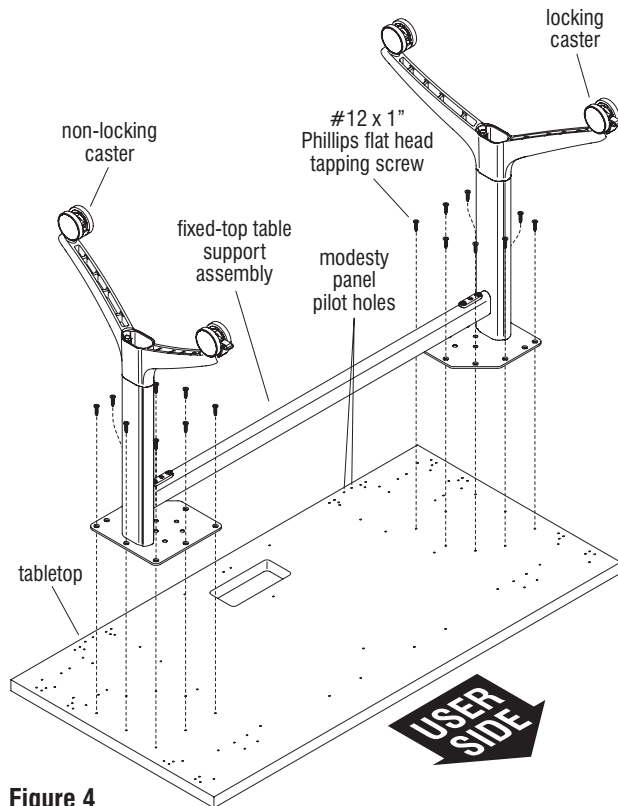

Figure 4
1. Carefully place the tabletop upside down on a soft, protective surface. Take note that the “non-user side” of the tabletop has a pilot hole pattern for the modesty panel near the back edge, at each corner as illustrated (Figure 4).
2. Carefully set the fixed-height fixed-top base assembly upside down onto the tabletop, making sure the larger gap between the legs is facing the user side of the table. Align each fixed-tabletop bracket's mounting holes with the tabletop mounting holes and secure using four #12 x 1" Phillips pan head tapping screws per plate (Figure 4).